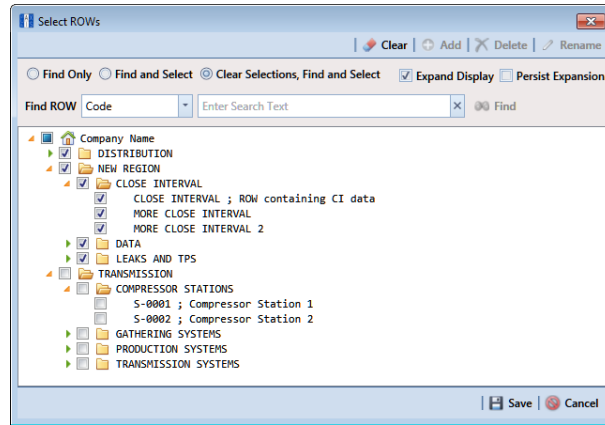

Figure 7-12. Select ROWs
- 1 Click the **Select ROWs** button  to open the *Select ROWs* window (Figure 7-12).